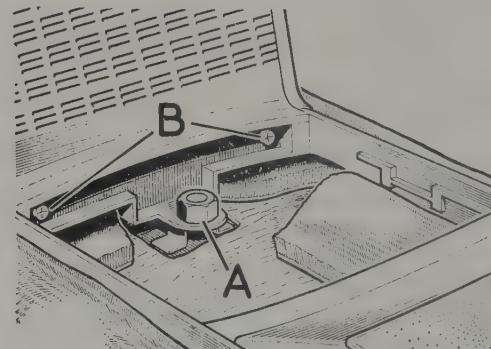

Fig. 12.50. Gearbox tunnel cover front securing nut (A) and screws (B)
- 2 Locate and remove the two nuts to be found under the rear ashtray location and the single nut under the front ashtray location (Fig.12.50).